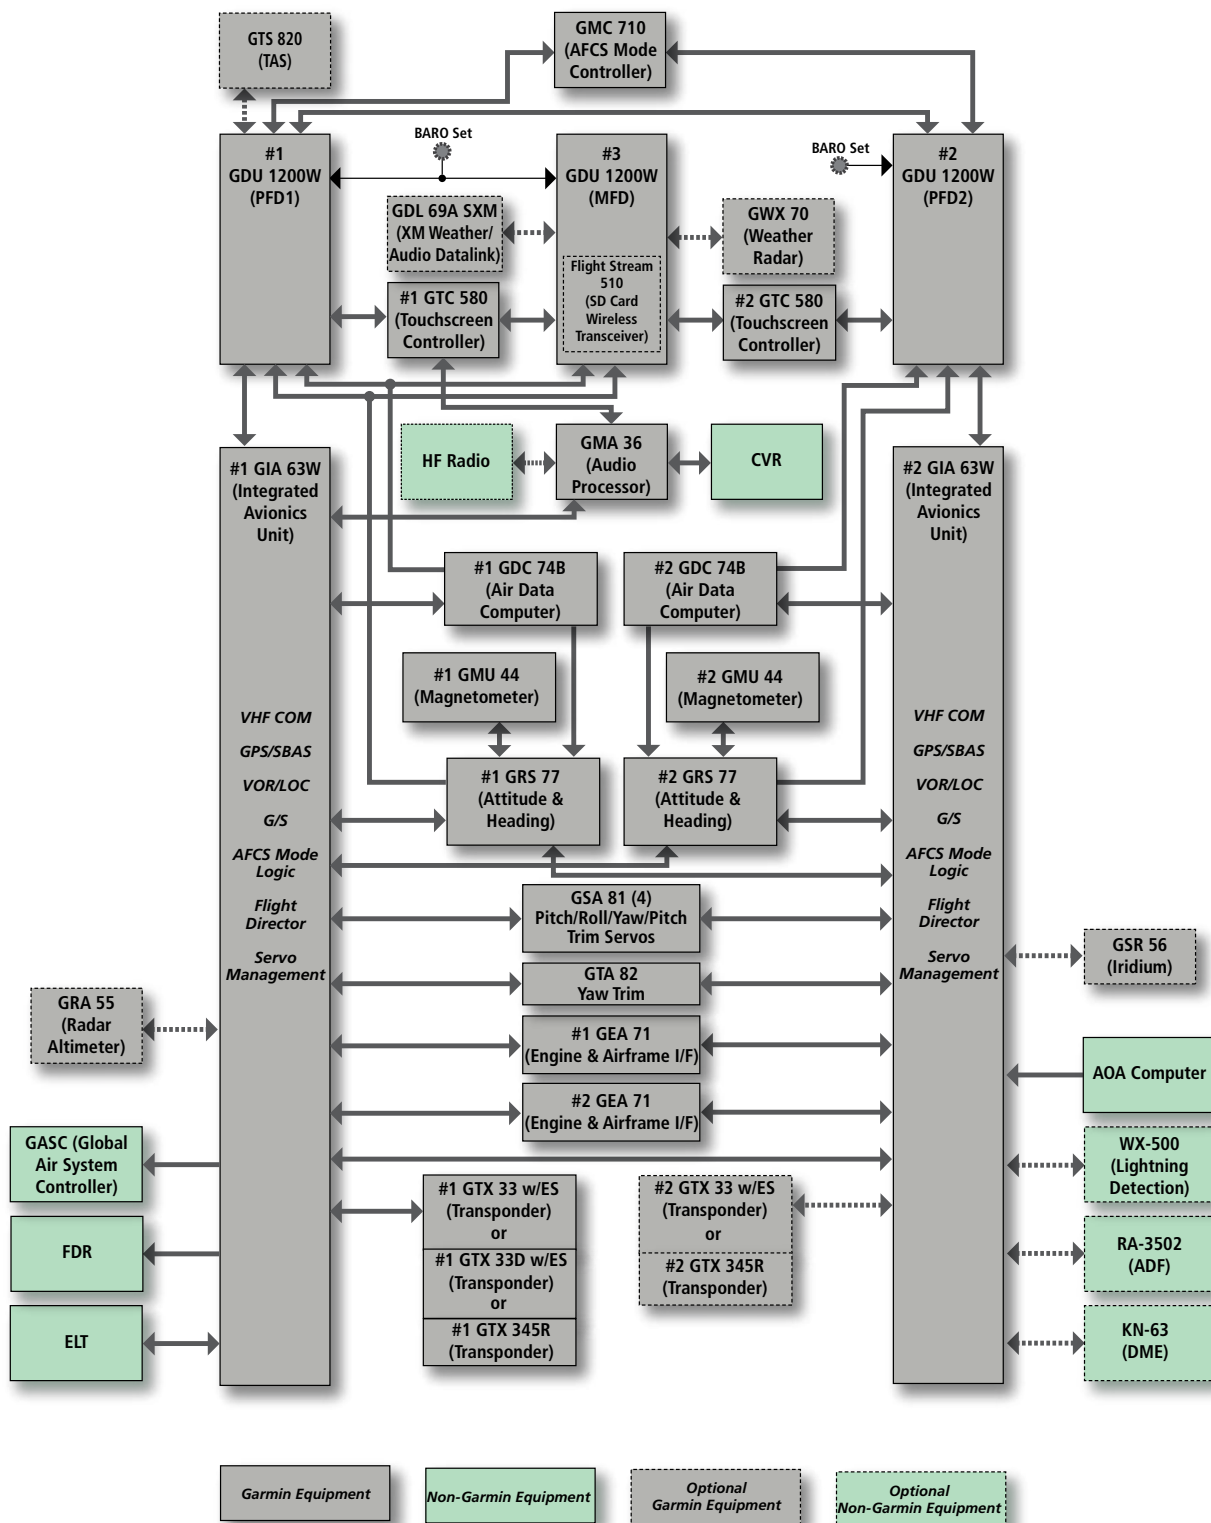

Figure 1-1 Basic System Block Diagram
Figure 1-1 shows interconnection of the LRUs.
**NOTE:** For information on optional equipment not shown in Figure 1-1, consult the applicable optional interface user's guide. This document assumes the reader is already familiar with the operation of this additional equipment